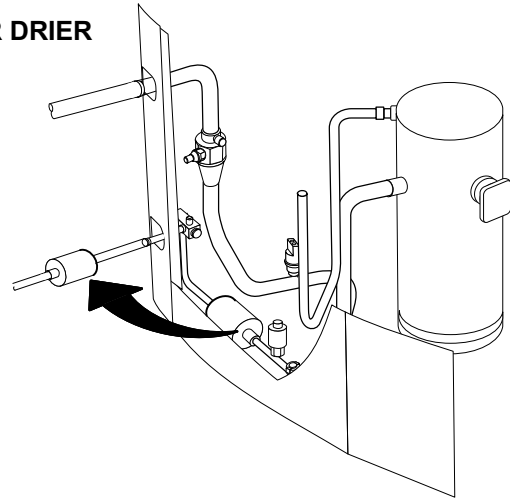

FIGURE 15
- 9- If pressure drop is greater than 4 psig replace filter drier. See figure 15.